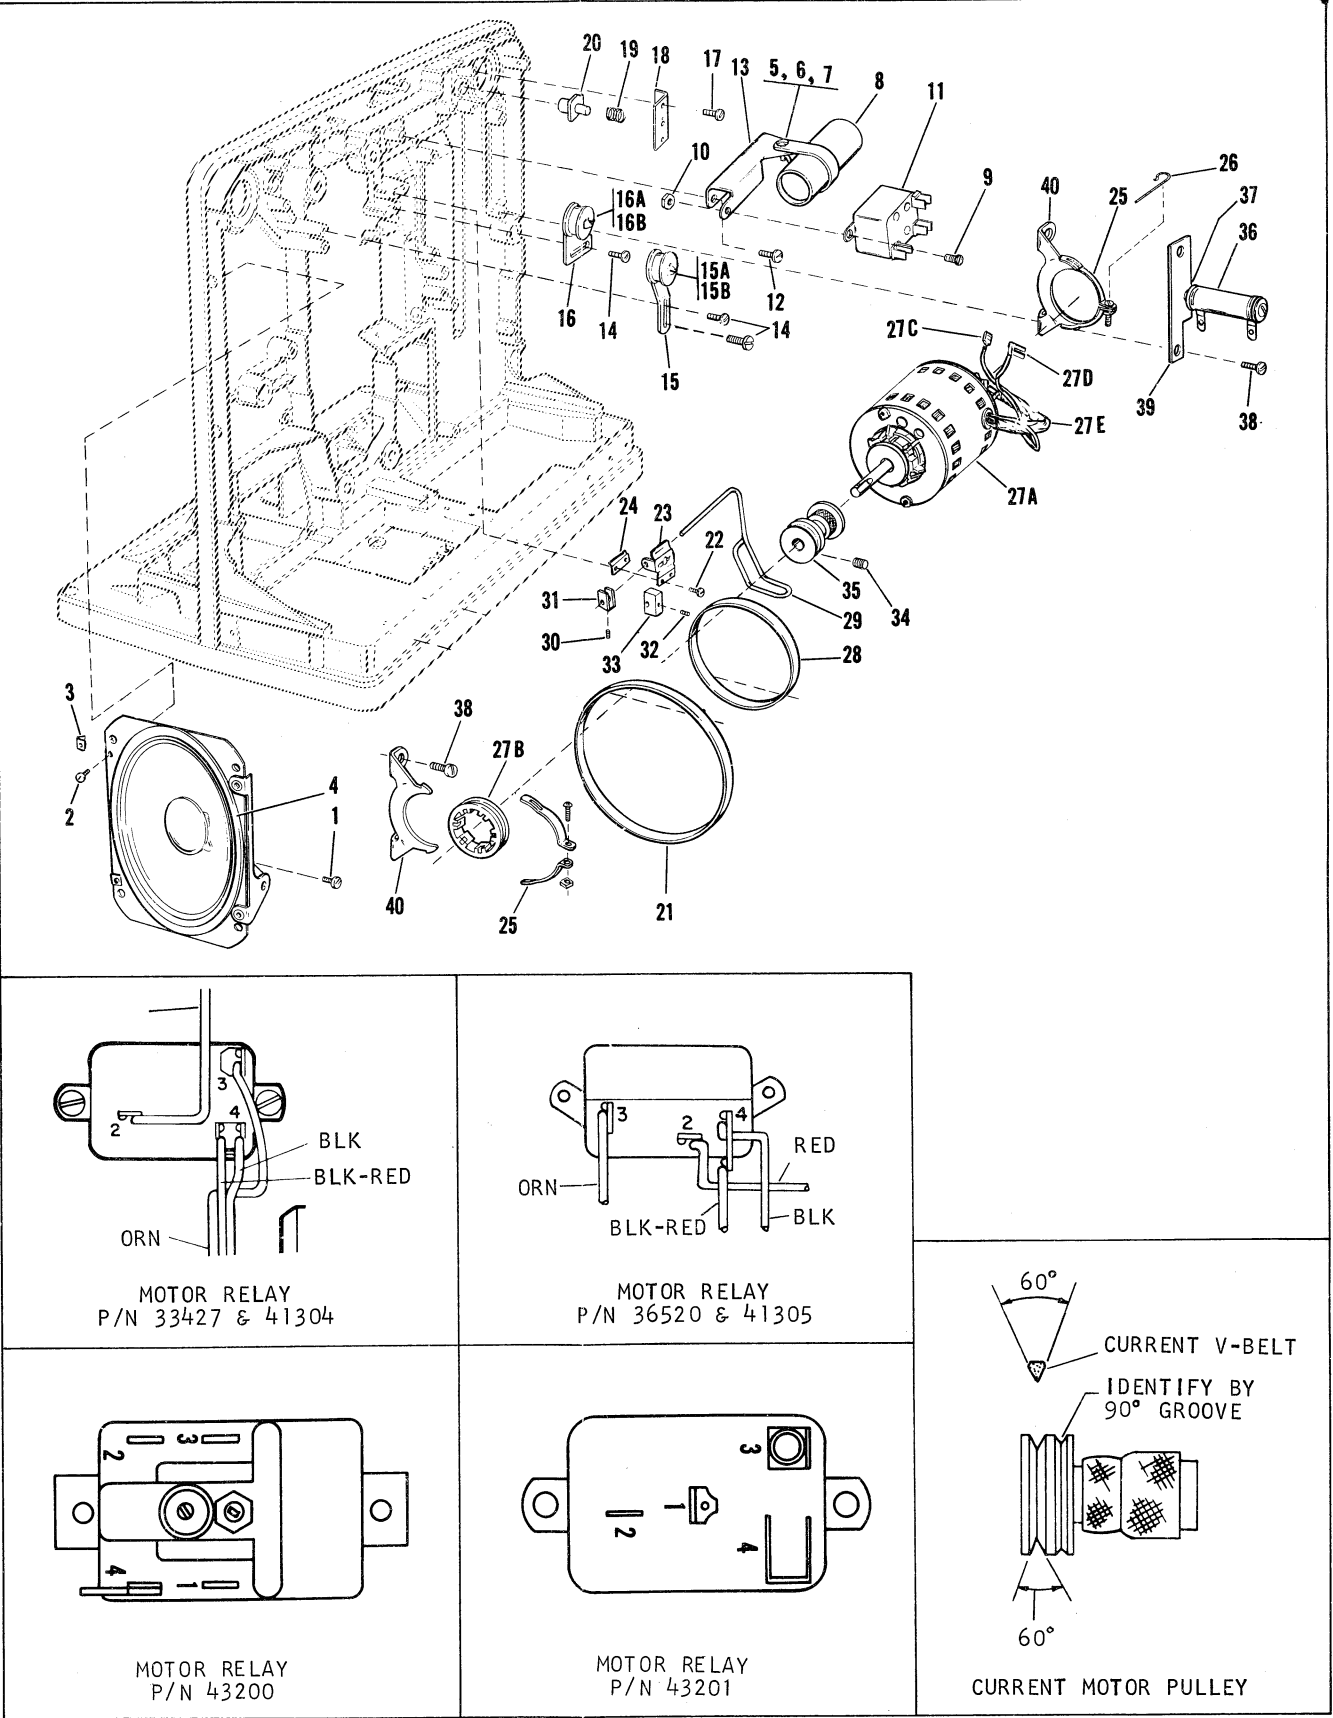

Figure 7. Projector Drive Motor and Electrical Parts
\*The projector drive motor (item 27, Figure 7) must be removed to gain access to the clutch and fire shutter mechanical linkage.
NOTE A: Available relays are shown in the insets of Figure 7. Relays 41304 and 41305 are used on export models (EX, EXT) only. Relays 36520 and 33427 are used on models 545, 550 and 552 and relays 43200 and 43201 on models 545T, 550T, 552T.